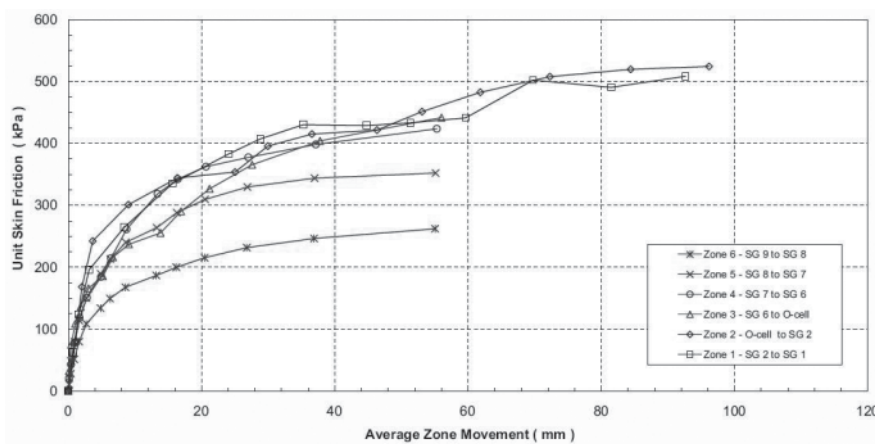

Figure 5: Measured Unit Shaft Resistance plotted against O-Cell displacement
Mobilised unit shaft resistance curves are presented in Figure 5. These are based on the strain gauge data and estimated axial stiffness (AE) of 102,500MN and 86,300MN for the upper cased and lower uncased pile sections. This indicates that the unit skin friction continued to increase with no evidence of a pronounced peak despite pile movements in excess of 50mm.